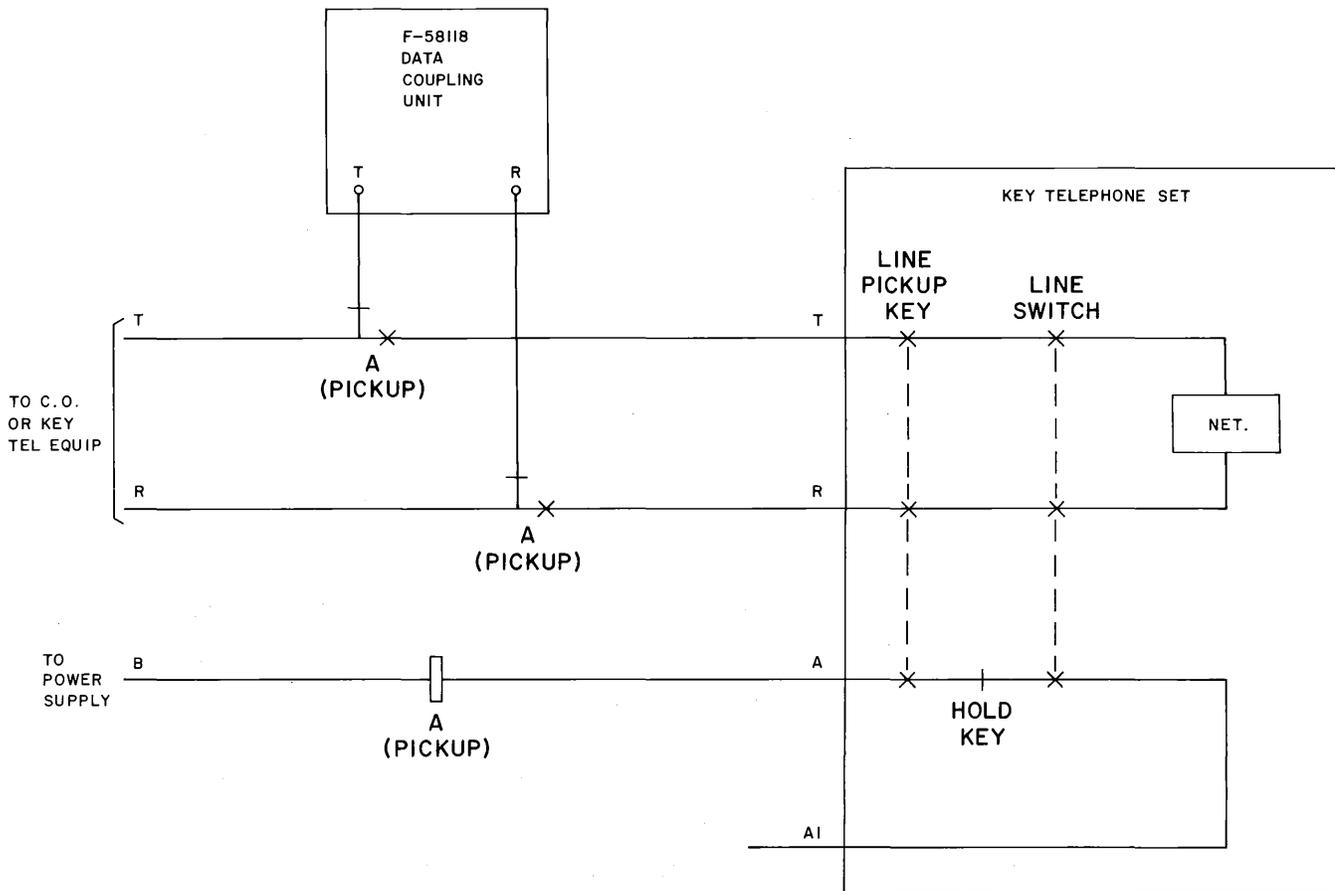

Fig. 8—Typical Data Coupling Unit Connections with Key Telephone Systems
**3.06** When the coupling unit is to be associated with key telephone equipment, connect the unit as shown in Fig. 8.